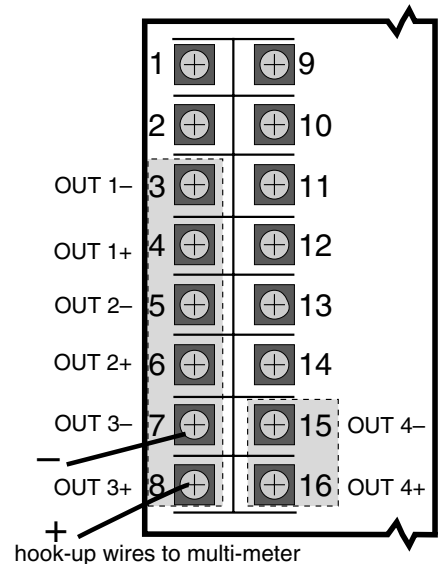

Figure D.5
5. Connect the small pieces of wire to the terminals assigned to the milliamp output(s) you are calibrating. Figure D.5 shows the hook up wires applied to OUT3 positive and OUT3 negative. Hook up wires need to be applied to all terminals that have corresponding milliamp output modules in their output sockets. Attach the test leads from the multimeter to the wires, and then plug the test leads into the meter. Set the meter for DC milliamps.